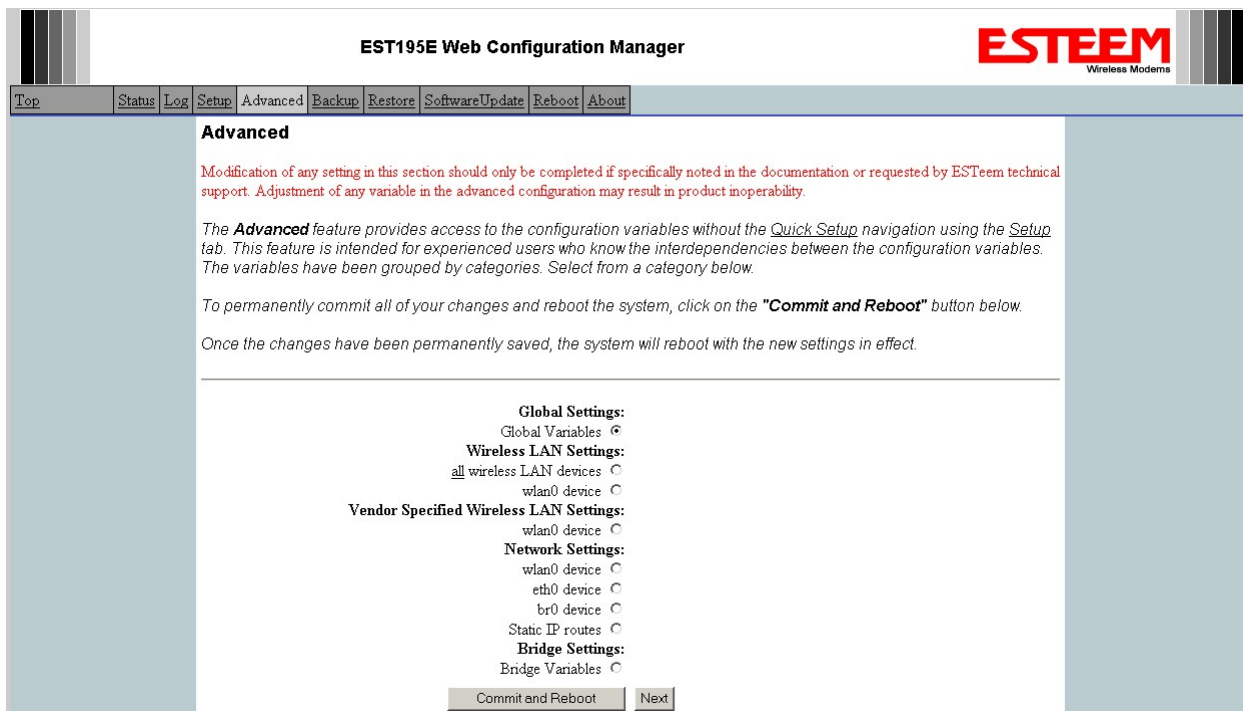

Figure 13: Advanced Settings Menu
7. To complete the configuration, select "Commit and Reboot." The ESTeem 195E will now commit the configuration changes and reboot. (Figure 13)